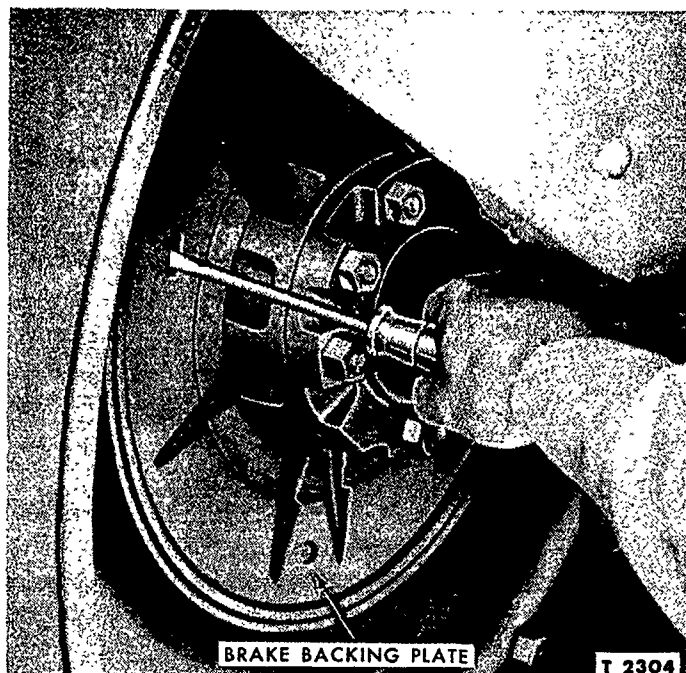

Figure 2—Adjusting Brake Shoes
3. With the brake pedals in the released position, turn the brake adjusting screw clockwise as shown in Figure 2, until there is a noticeable drag on the brake drum as the wheel is turned.